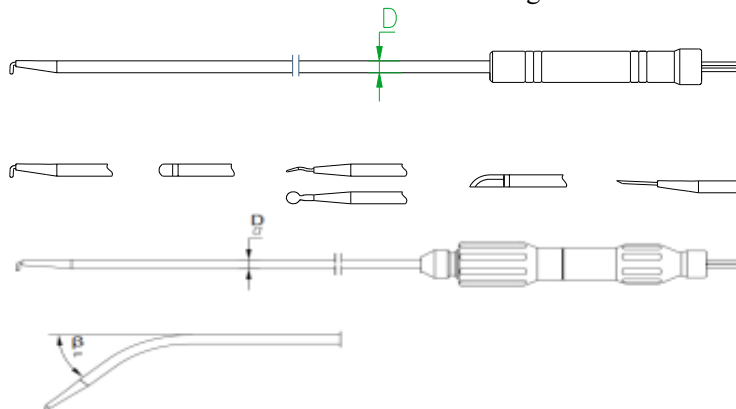

Fig.1 Structure diagram of Monopolar HF Electrode with hook, Monopolar HF Electrode with Probe,
- A. The outline structure and basic dimensions of Monopolar HF Electrode with hook, Monopolar HF Electrode with Probe, Monopolar HF Electrode with Spatula, Monopolar HF Electrode with Knife, Monopolar HF Electrode with Needle are shown in Fig.1 and table 1.